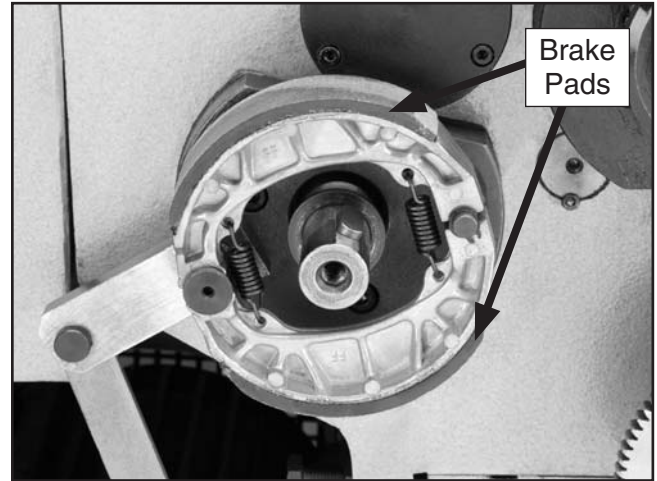

Figure 99. Brake assembly.
5. Step off the brake and remove the pulley. **Figure 99** shows the pulley removed and the brake pads exposed.